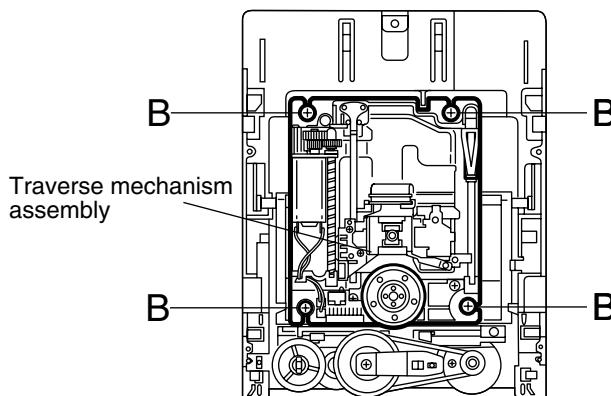

Fig.4
**■ Removing the traverse mechanism assembly (See Fig.4 and 5)**